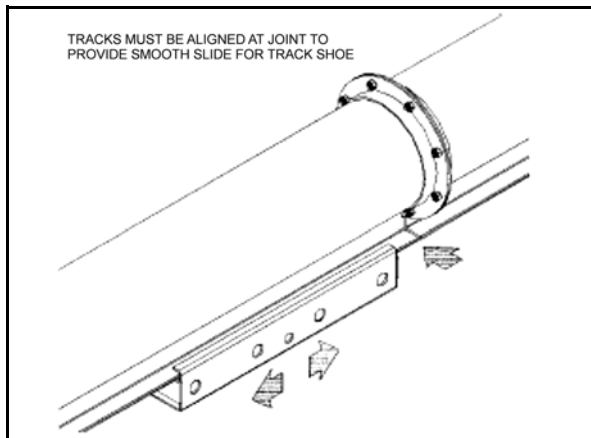
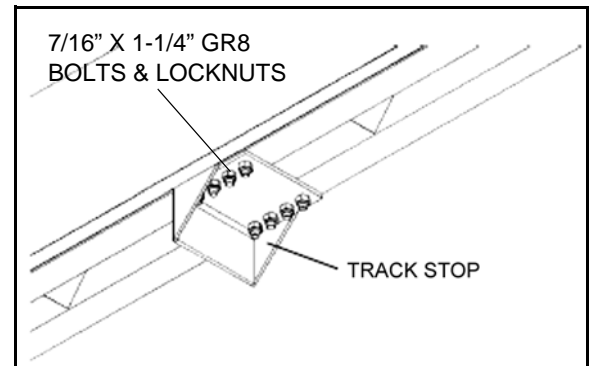

Figure 3.17 81'
Figure 3.18 81'
- ➔ 2. **81'**: Slide the four roller track shoe onto track (Figure 3.17). Attach angle track stop with eight 7/16" x 1-1/4" GR8 bolts and locknuts (Figure 3.18).